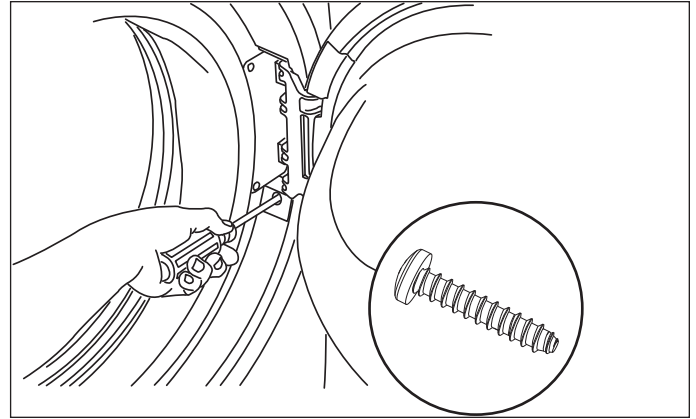

Figure 2-47.
2. Install the trim plug with 1 long, coarse thread, panhead screw. (See Figure 2-47)